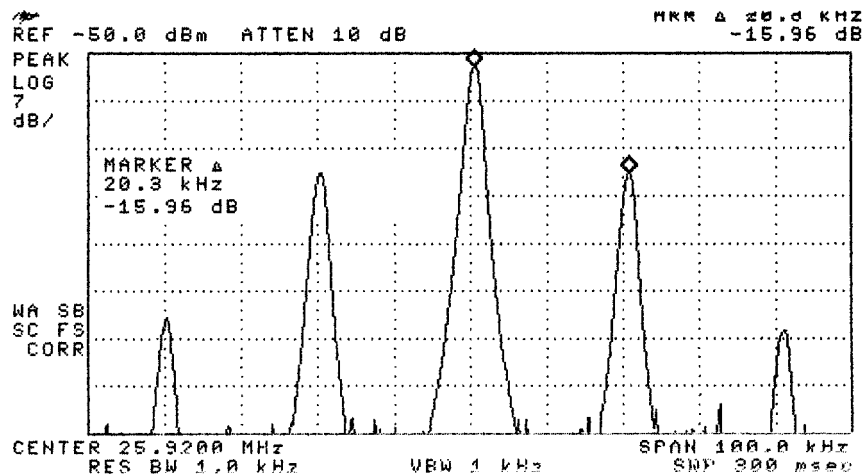

Figure 3-10 Carrier to Sideband Ratio Example
- 34** Adjust the OmniBER's jitter amplitude (approximately 7.52 UI) until the 4th **Bessel Null** is observed on the Spectrum Analyzer i.e 4th dip in the carrier level (see Figure 3-10). For OC-1, STS-3/OC-3 use 7.52 4th null, OC-12 use 11.52 UI, 6th null. For OC-48 use 9.52 UI, 5th null.